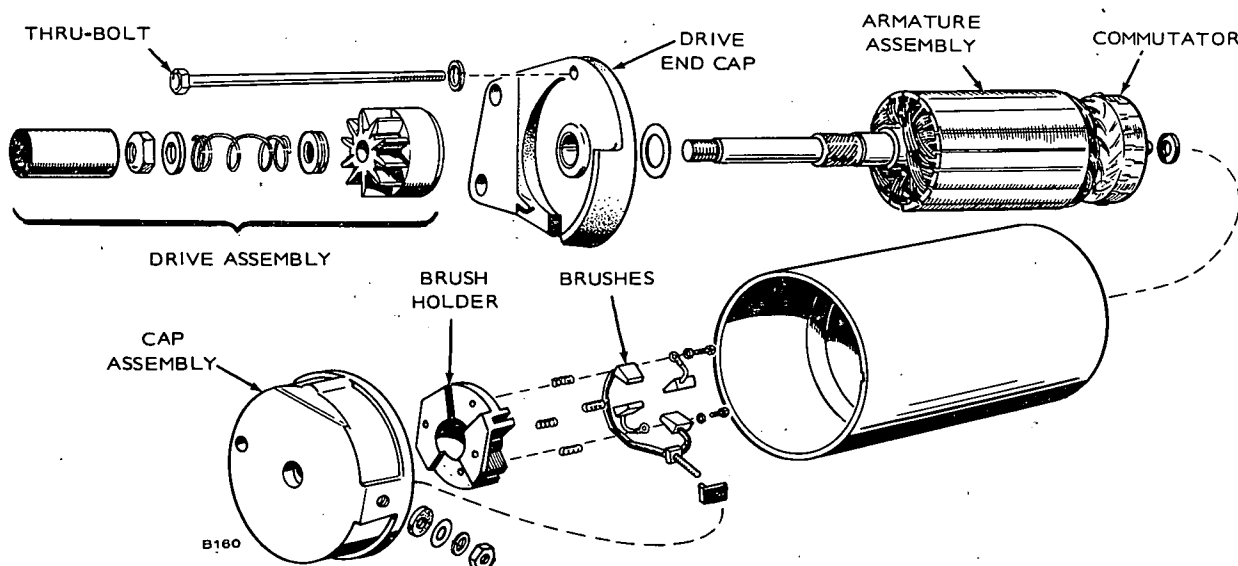

FIGURE 14. STARTER EXPLODED VIEW
2. Disassemble the drive assembly and the drive end cap by loosening the self-locking nut. See Figure 14.